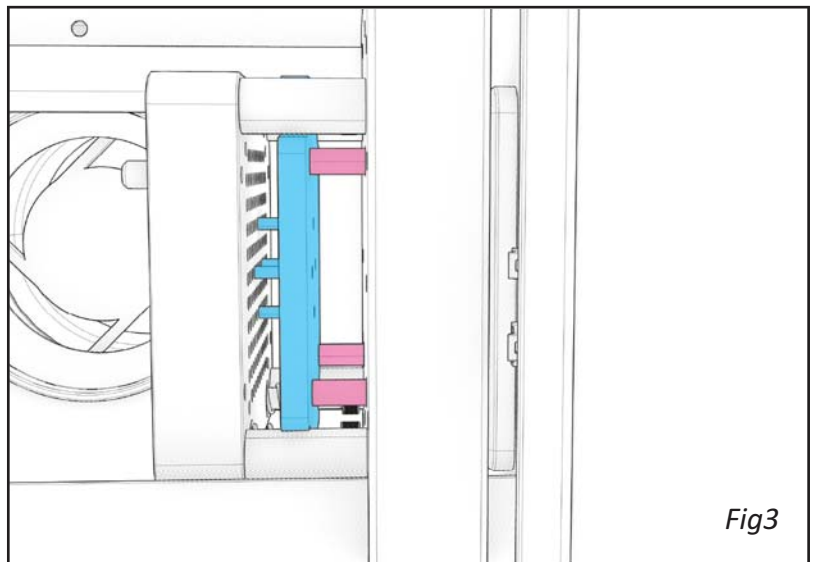

Fig3
Now as you continue to jog the plate forward in small increments you should see the distance traveled by the ejector pin push plate relative to the stick out depth of the ejector pins themselves. (Fig 3,4)
3. Although it is possible to dislodge a freeze plug with A Side tooling installed, it is recommended to remove the A side tool leaving the M.U.D. in place as shown in fig 3.